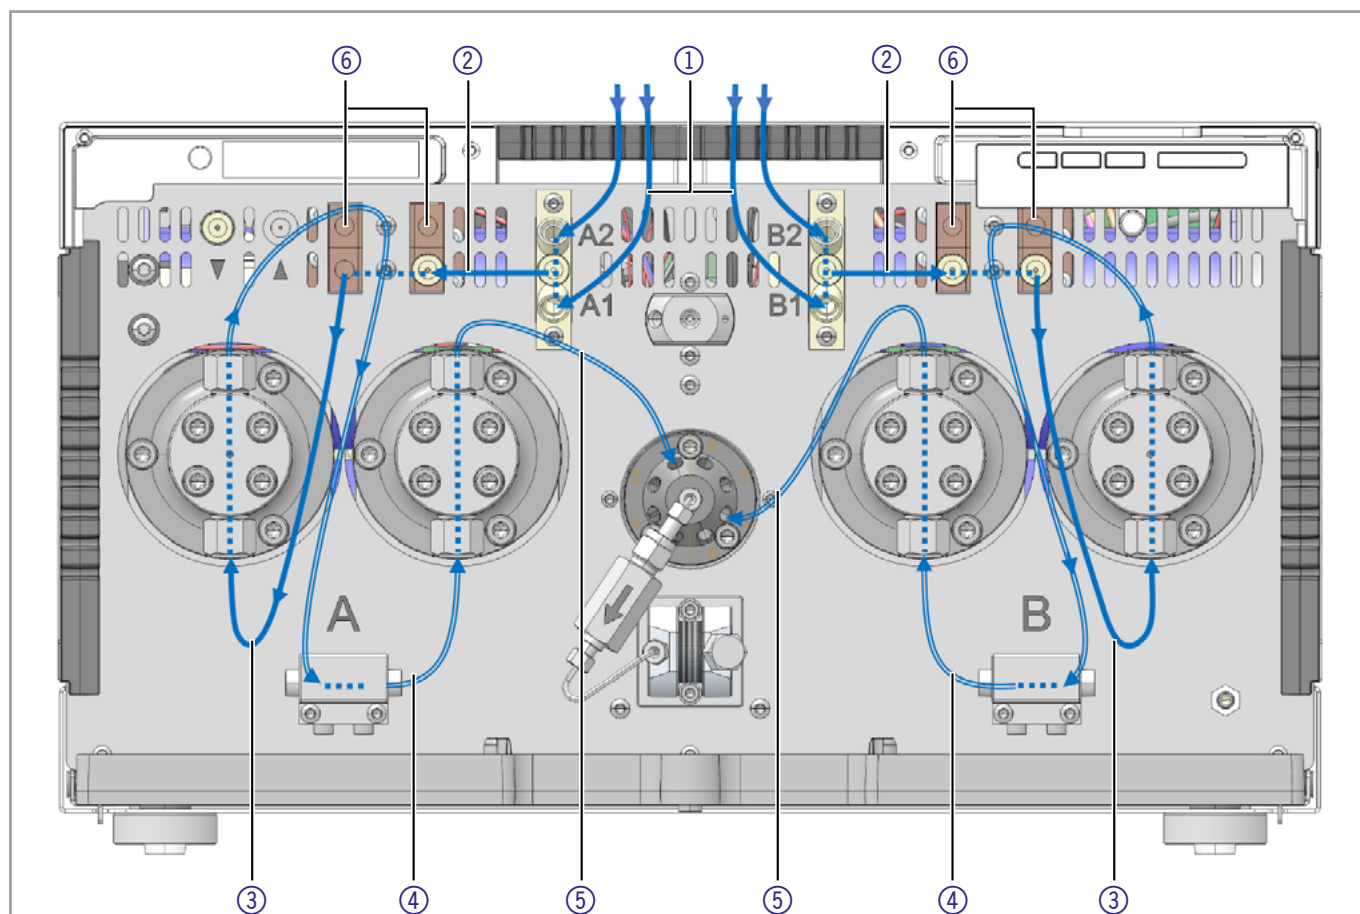

Fig. 14 Flow path variant
Fig. 14 shows the installation diagram for connecting capillaries and tubings to the pump.
Note: Most of the tubings and capillaries shown here are already pre-installed. An exception is the inlet of the eluent bottle to the solvent selection valve (see ① Fig. 14).
- ① Inlet of eluent bottle to solvent selection valve
- ② Inlet of solvent selection valve to degasser
- ③ Connection from degasser to pump head inlet
- ④ Connection between pump head pistons
- ⑤ Connection from pump head to purge valve
- ⑥ Degasser channels for degassing the flushing liquids of the autosampler
The inlet of the degasser ② is already connected with the solvent selection valve upon delivery ① (see Fig. 14). The outlet of the degasser ③ is already connected with the pump heads upon delivery (see Fig. 9).